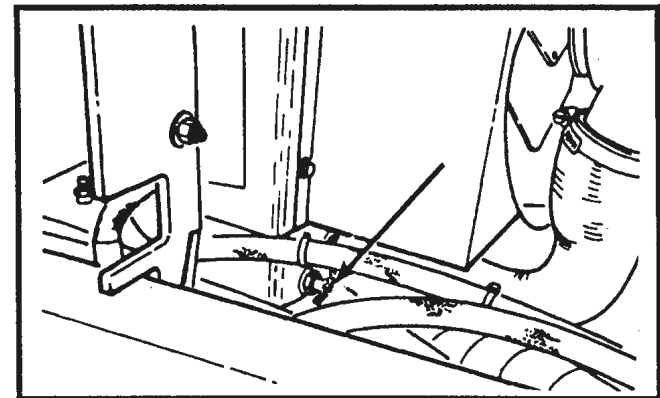

Figure 12-3. Radiator Drain Valve
2. Remove the drain plugs or open the drain valves. Remove the radiator cap. Flush the cooling system. Check the hoses and fittings for damage. Replace with new hoses and fittings as needed. Refer to Figure 12-3.